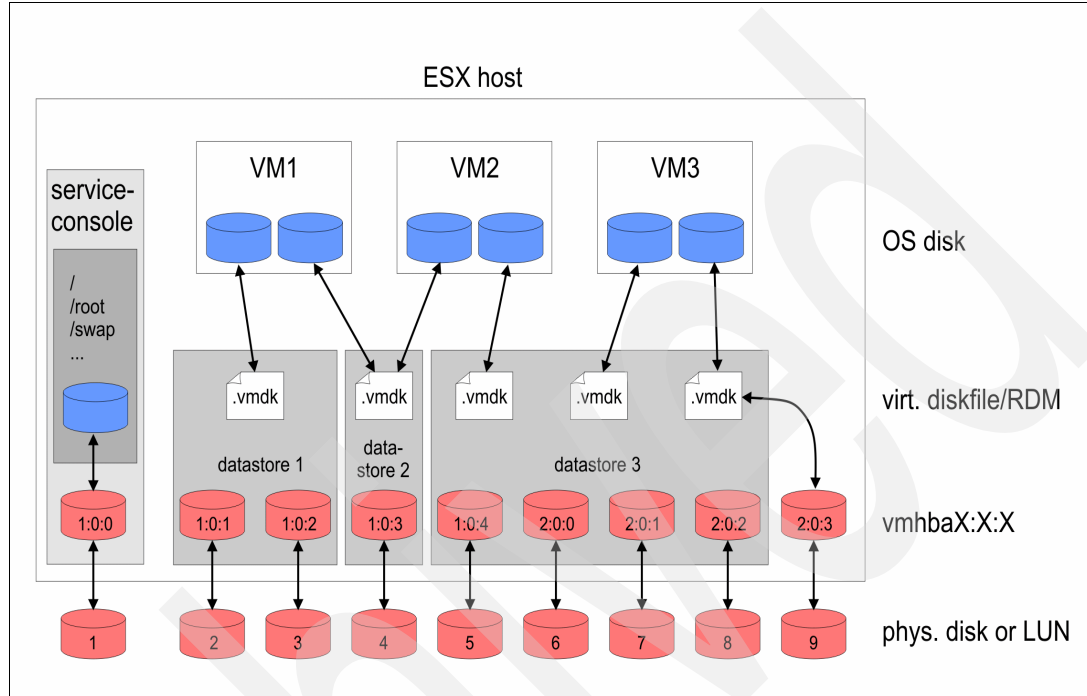

Figure 15-13 The logical disk structure of ESX Server
Each virtual machine (VM) can access one or more virtual disks. The virtual disks can either be virtual machine disk files (.vmdk) stored on a VMFS-3 volume, or they can be raw disks (either local storage or SAN LUNs). See Figure 15-13.
In Figure 15-13, LUNs are assigned to the ESX host via two HBAs (vmhba1 and vmhba2). LUN vmhba1:0:0 is used by the service console OS while the other LUNs are used for the virtual machines.